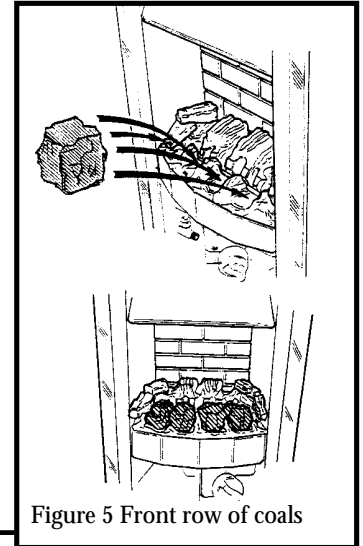

Figure 5 Front row of coals
3.2 Place four of the remaining coals in the four valleys of the front coal. Place the left side coal so that the pilot flame will be visible. See figure 5.